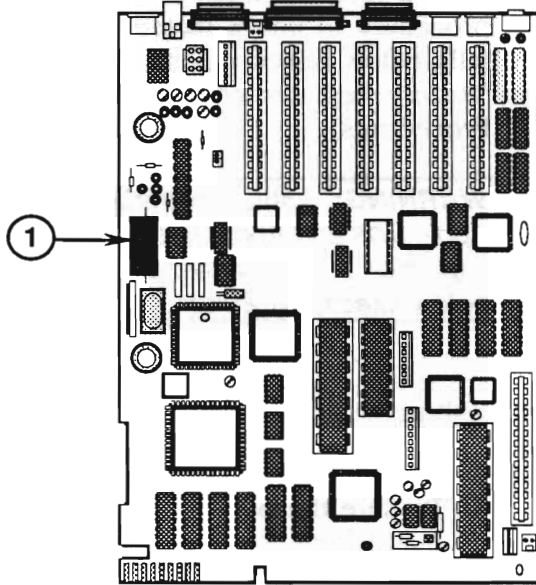
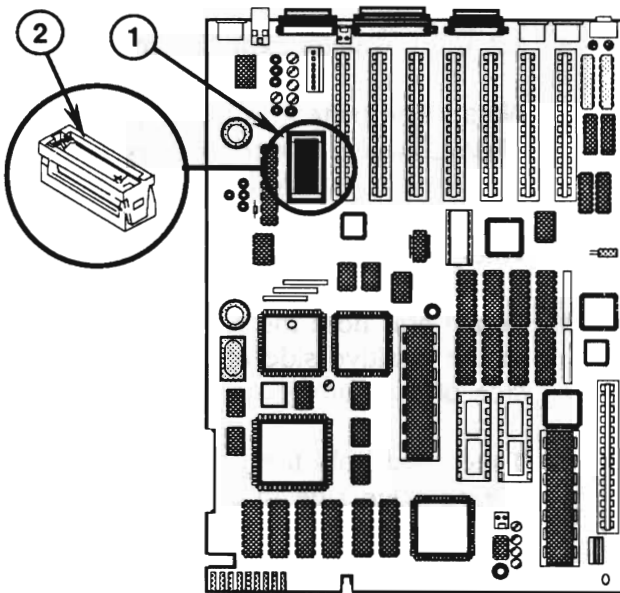

FIGURE 9
FIGURE 10
2. Locate the lithium battery. Figure 9, #1 shows the location of the battery on a Apple IIGS logic board; Figure 10, #1 shows the battery location on an Apple IIGS, 1 MB logic board.
**Note:** The battery in the Apple IIGS is installed in a plastic battery holder. It may be necessary to remove the battery holder cover (Figure 10, #2) and pull out the battery by hand to measure battery voltage.